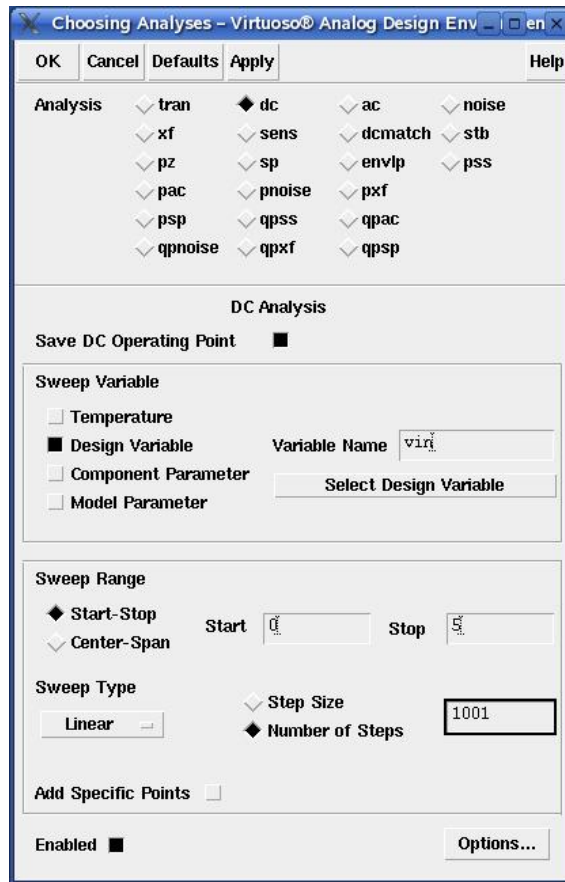

Figure 13: Setting up the DC simulation
- choose an analysis: press the “Choose Analysis...” button; in the following dialog (see Fig. 13)